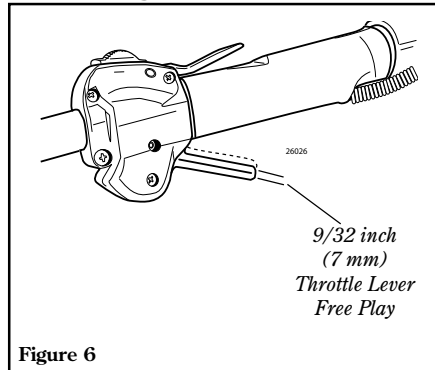

Figure 6
1. Loosen the lock nut on the cable adjuster. See Figure 6.